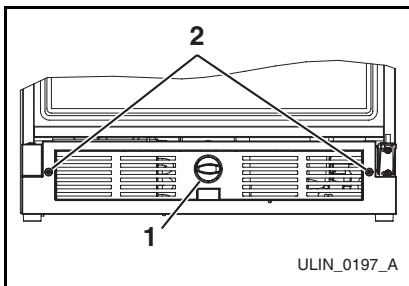

Figure 8
2. Remove the control knob (**Figure 8, 1**) by pulling it straight out, away from grille.
3. Remove two screws from grille (**Figure 8, 2**) and save.
7. Reinstall the control knob (**Figure 8, 1**).